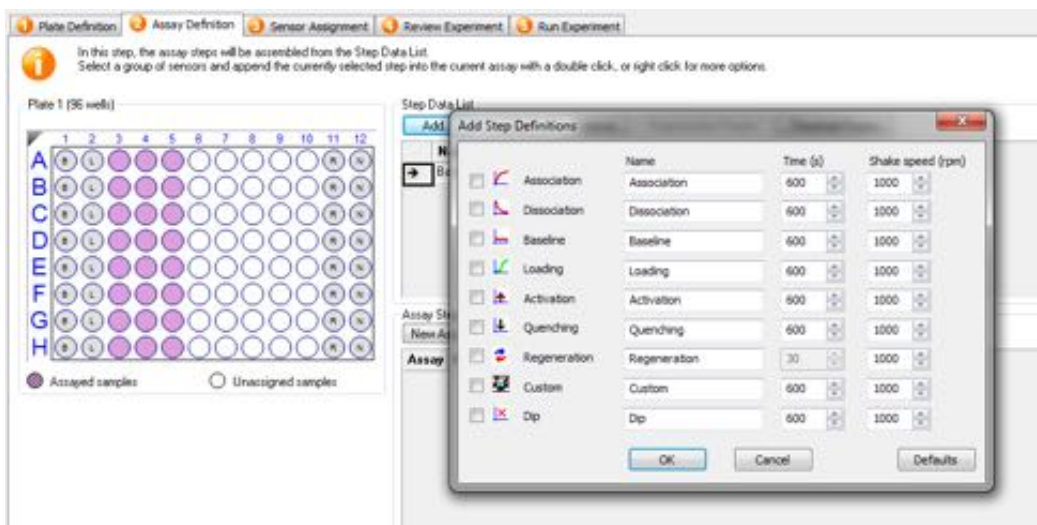

Figure 10-33: Creating an Assay Step Type
Click the **Assay Definition** tab, or click the  arrow to access the Assay Definition window (see Figure 10-33). The **Step Data List** shows the types of assay steps that are available to build an assay. By default, the list includes a baseline step.
2. In **Assay Step Definition** dialog box (Figure 10-33), specify the step information: